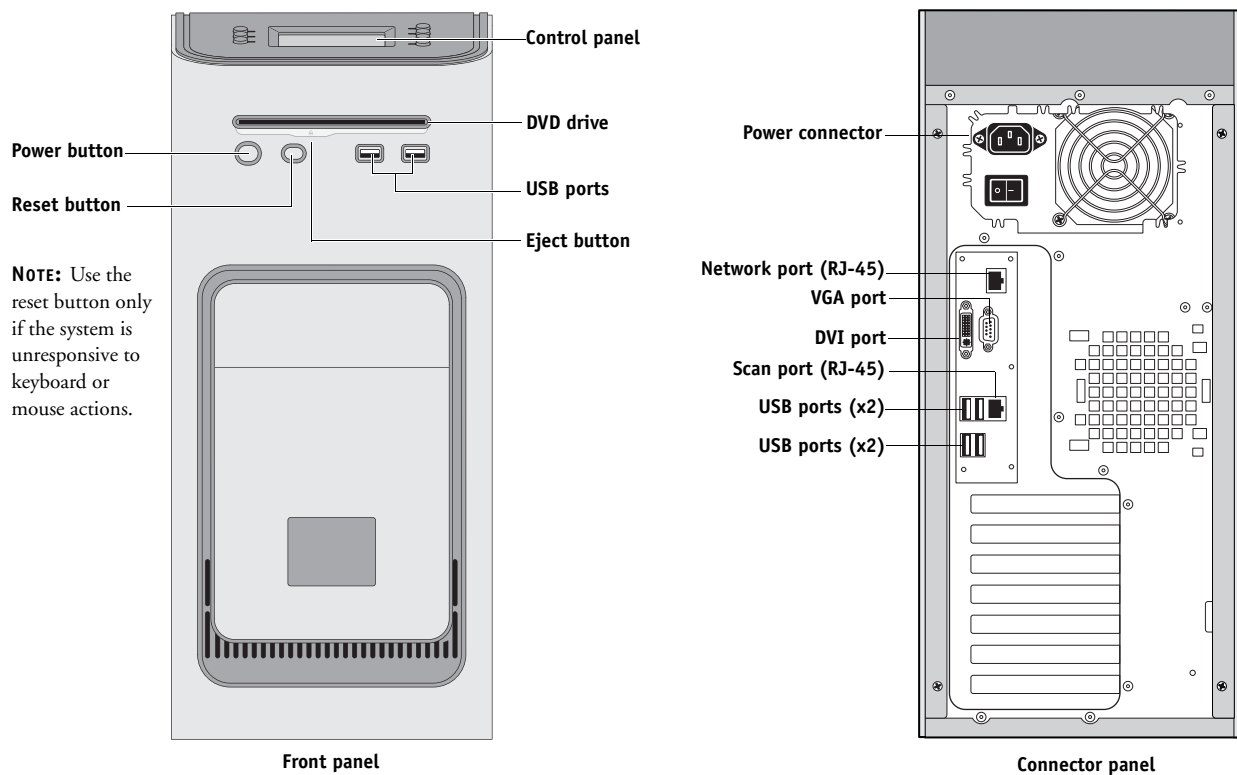

FIGURE 26: FC integrated external cable connections
- All interface cables to the system are plugged into the proper connectors (see Figure 26).